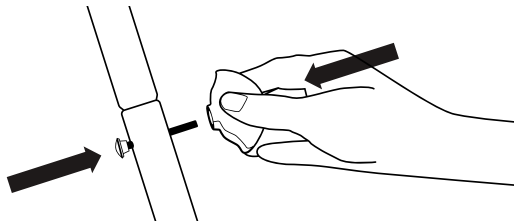

Fig. B2
2. Align and insert the shaft locking bolt through the aligned holes and into the end. Then insert the shaft locking knob into the end of the bolt from the other side. (See Fig. B2)